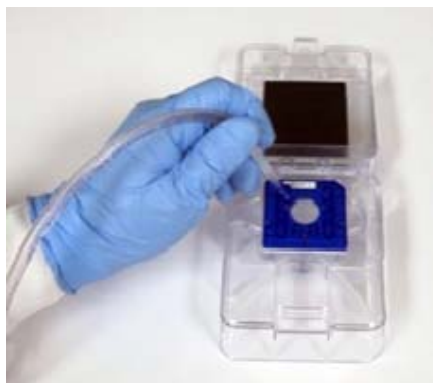

Figure 2. Using a vacuum to aspirate the chip wells is more effective than using a pipette.
- 2 Use a pipette tip attached to a vacuum line to thoroughly aspirate all fluid from the chip wells (see Figure 2). For more details on how to set up a vacuum line see page 31.